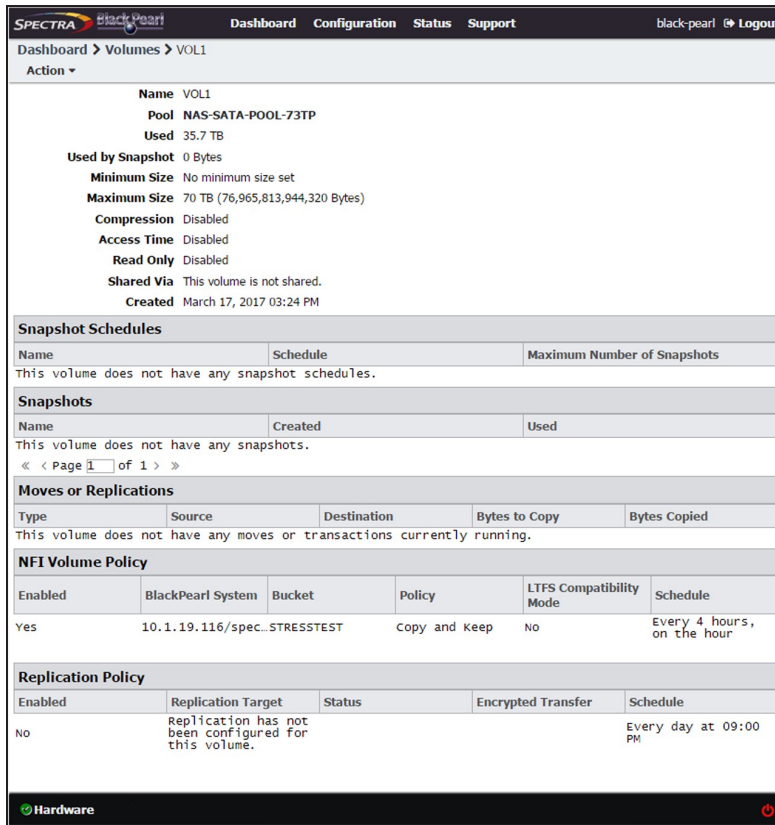

Figure 93 The Volume details screen.
1. On the Volume details screen (see Figure 93 on page 166), select **Action > New Snapshot Schedule**. The New Snapshot Schedule dialog box displays.
- On the Volume details screen (see Figure 93 on page 166), select **Action > New Snapshot Schedule**. The New Snapshot Schedule dialog box displays.